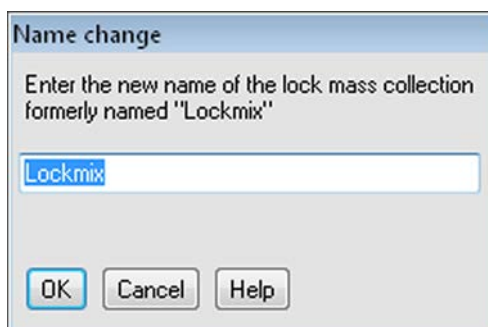

Figure 5-7. Changing the name of a lock mass collection
2. Click the  button. The Name Change dialog box is displayed. See Figure 5-7.